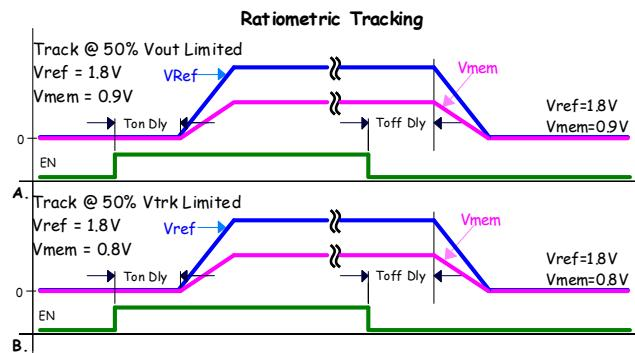

FIGURE 21. RATIO METRIC TRACKING
- a. Track at 50% V_{OUT} limited. Member rail tracks the reference rail and stops when the member reaches 50% of the target voltage, Figure 21 (A).
- b. Track at 50% VTRK limited. Member rail tracks the reference at the instantaneous voltage value applied to the VTRK pin until the member rail reaches 50% of the reference rail voltage, or if the member is configured to less than 50% of the reference the member will achieve its configured target, Figure 21 (B).
Tracking Configuration Figure 21 (A)
Tracking Configuration Figure 21 (B)